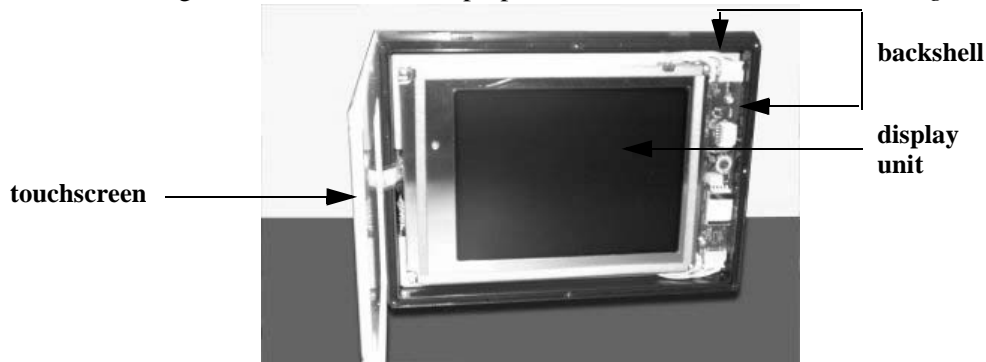

Figure 2 Positioning the PowerStation
10. With the touchscreen cable still connected to the CPU board, set the PowerStation on its edge with the touchscreen perpendicular to the unit as shown in *Figure 2*.